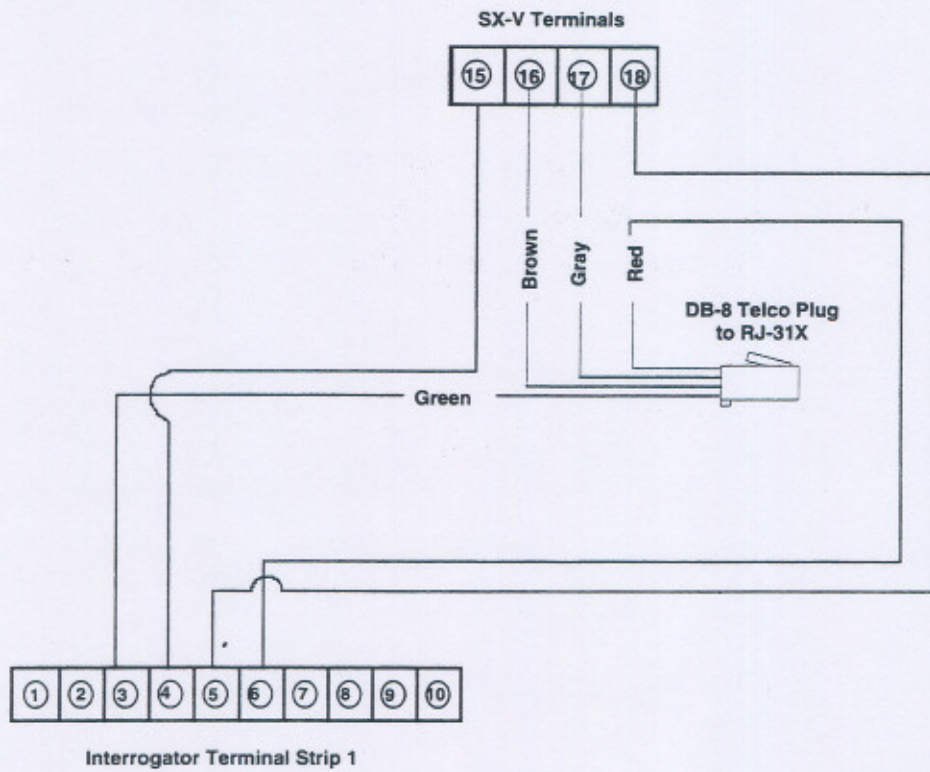

Figure 2.8 Wiring Diagram for Phone Line Seizer through Interrogator Module
5. Connect the phone line so that the Interrogator Module is ahead of the SX-V Control Panel and the on-site phones. (Refer to Figure 2.8.)
Connect all microphones and speakers as shown in Figure 2.8.